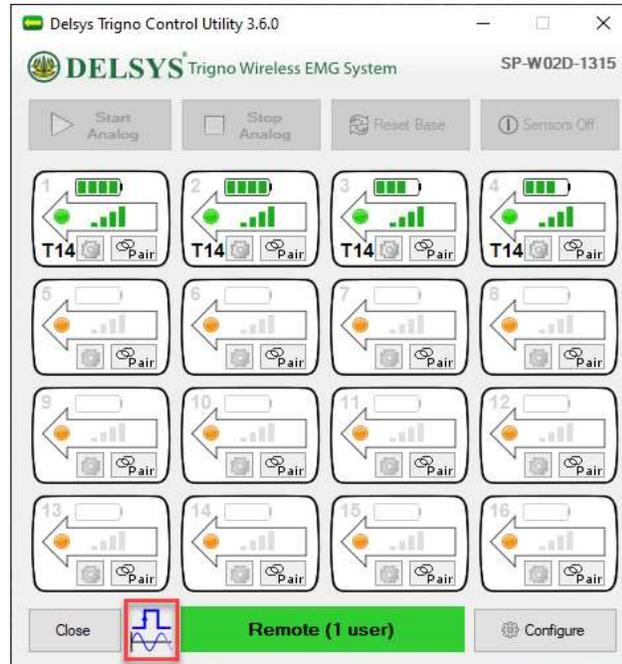

Figure 10: Icons highlighting the Trigger Module and data streaming status with the Delsys Trigno Control Utility.
- To ensure that data from the Trigno System are streaming and that the Trigger Module is configured correctly check the status of the icons representing the system highlighted in Figure 10. Make sure both are now represented in blue.